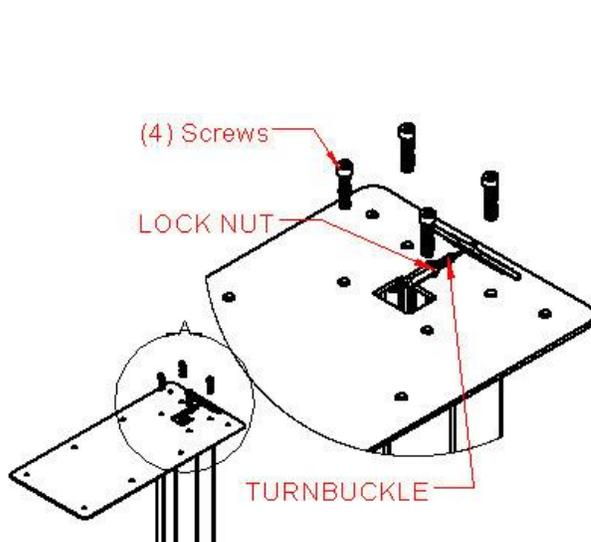

Figure 6
5.2 Remove the wrench as shown in Section 1. Loosen the cable turnbuckle by first loosening the lock nut, then unfasten the end of the cable attached to the handle. Next remove the other end of the cable from the gas spring lever (Figure 6).
5.3 Remove the top plate by first removing (4) screws (Figure 6). A power driver may be required for this operation.
5.13 Attach the Top plate to the column with the 4 screws removed in step 5.4 (Figure 6). Reattach both ends of the cable to the handle & gas spring lever. Adjust the cable so that there is a small amount of slack to ensure that the gas spring is not activated. Secure the lock nut.